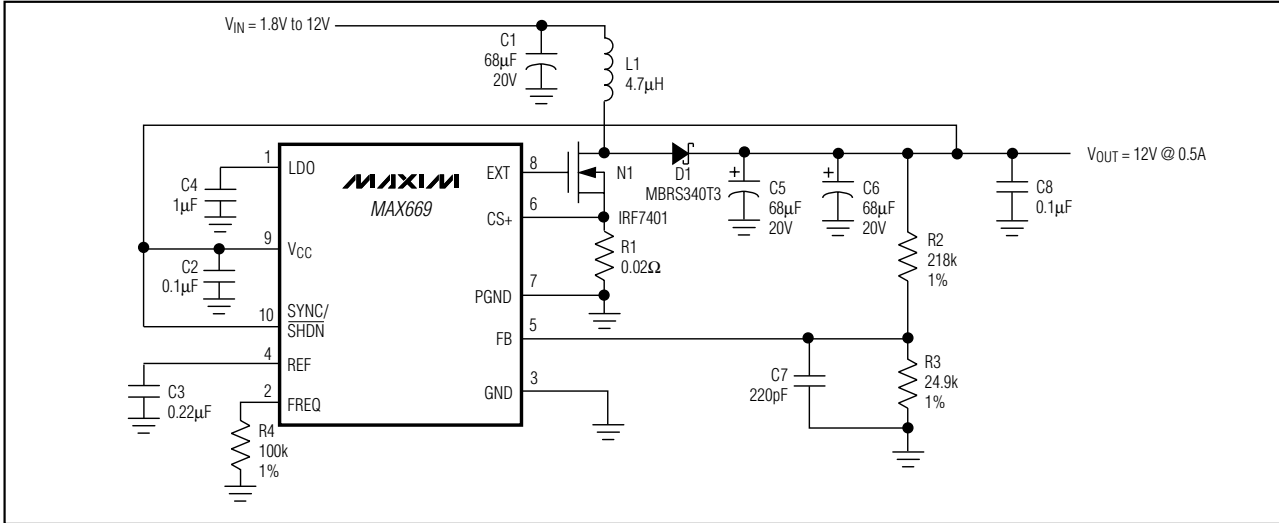
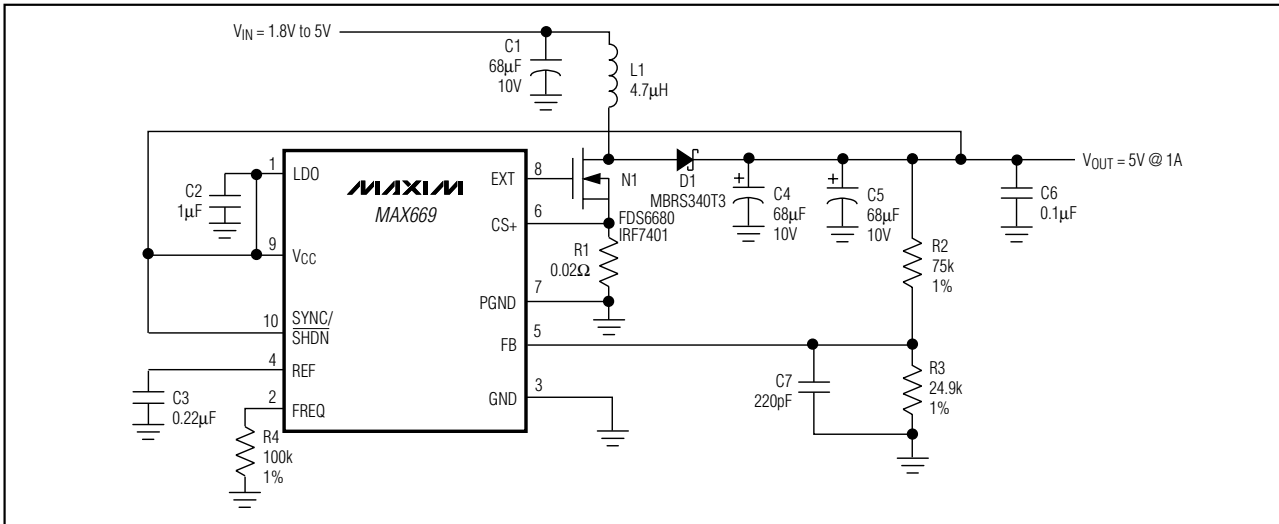

Figure 2. MAX669 High-Voltage Bootstrapped Configuration
Figure 3. MAX669 Low-Voltage Bootstrapped Configuration
(Circuits of Figures 2, 3, 4, and 5; $T_A = +25^\circ\text{C}$; unless otherwise noted.)
V_{CC} and LDO allow a variety of biasing connections to optimize efficiency, circuit quiescent current, and full-load start-up behavior for different input and output voltage ranges. Connections are shown in Figures 2, 3, 4, and 5. The characteristics of each are outlined in Table 1.
With V_{CC} connected to V_{OUT} , as in Figure 2, EXT voltage swing is 5V when V_{CC} is 5.2V or more, and $V_{CC} - 0.2V$ when V_{CC} is less than 5.2V. If the output voltage does not exceed 5.5V, the on-chip regulator can be disabled by connecting V_{CC} to LDO (Figure 3). This eliminates the LDO forward drop and supplies maximum gate drive to the external FET.
* For standard step-up DC-DC circuits (as in Figures 2, 3, 4, and 5), regulation cannot be maintained if V_{IN} exceeds V_{OUT}. SEPIC and transformer-based circuits do not have this limitation.
The output voltage is set by two external resistors (R₂ and R₃, Figures 2, 3, 4, and 5). First select a value for R₃ in the 10k Ω to 1M Ω range. R₂ is then given by: